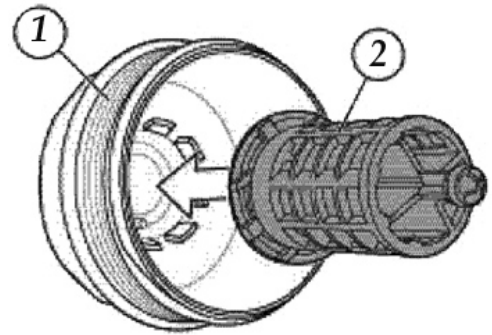

Fig. 1
1. Perform all applicable test plans completely for the faults stored. A mechanical restriction or electrical failure of the VANOS solenoid and/or the electrical circuit can cause insufficient oil supply to the VANOS assemblies as well. If the completed test plans results are inconclusive, then proceed to step 2. See **Fig. 1**.